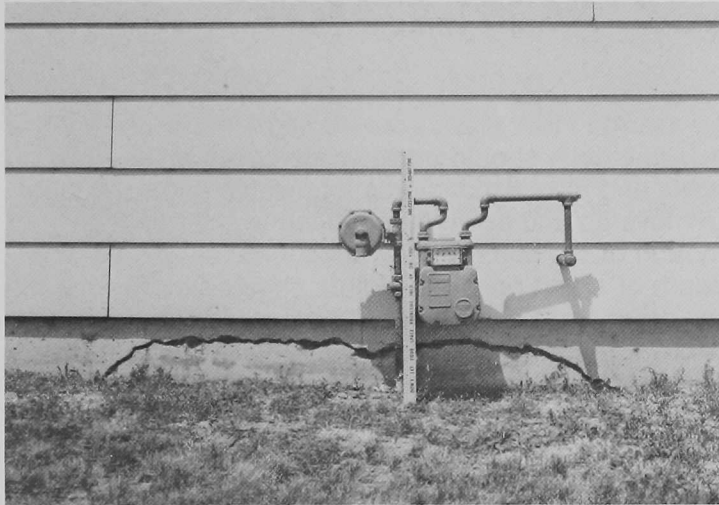

Figure 33. The crack in this foundation was caused by highly swelling soil.
Foundation walls. If you cannot see the foundation because of shrubs and flowers, you should read the section on “effects of vegetation on house and yard.” In any case, inspect the foundation wall for cracks. Almost without exception, every house will have some cracks in the foundation. These are the result of (1) shrinkage due to curing of the concrete and (2) tension cracks due to minor settling. This type of crack is on the order of 1/8 of an inch wide or less. Large cracks are probably the result of severe foundation movement (Fig. 33).